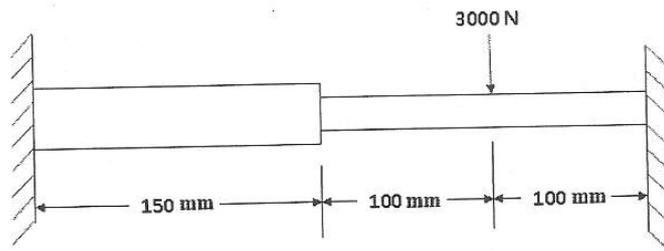

Figure 3b
- B Determine the displacement and slope (i.e. θ) at the load point for the stepped beam shown in Figure 3b. Each element has $E=200$ GPa. The area moment of inertia are given as $I_1=1.25 \times 10^5 \text{ mm}^4$, and $I_2=4 \times 10^4 \text{ mm}^4$. Clearly show the elemental stiffness matrices (k) for each element, assembly of k matrices to get global stiffness matrix (K) and application of boundary conditions. 10